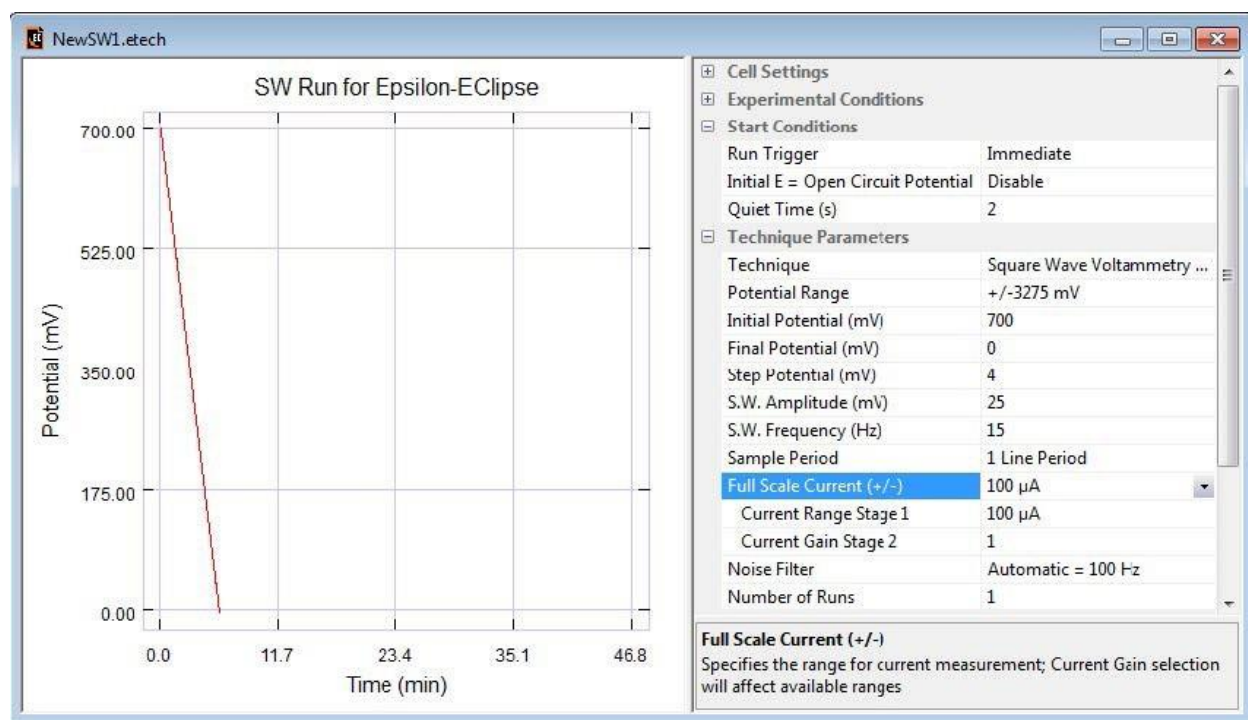
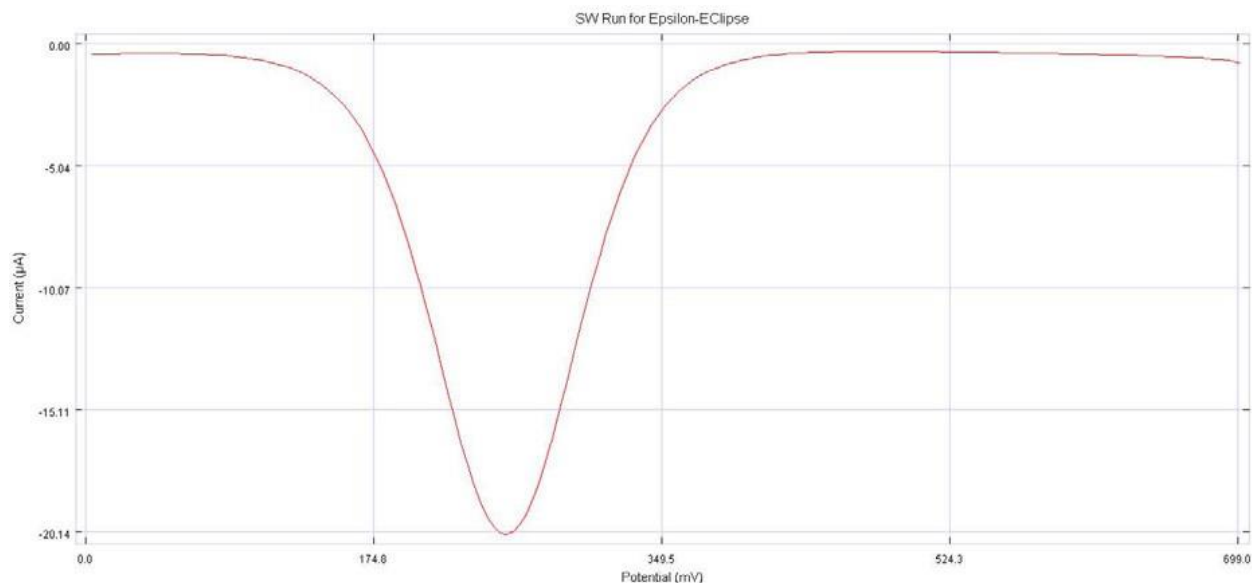

Figure 15 - Change Parameters dialog box for Square Wave Voltammetry
Figure 16 - Default plot for Square Wave Voltammetry
15. Click **New**, and select **Square Wave Voltammetry** (note that this requires the optional Basic Plus software). A fifth experiment window will be opened. Enter the parameters shown in **Figure 15**, then run the experiment. Typical data for a **Square Wave Voltammetry** experiment is shown in **Figure 16**.